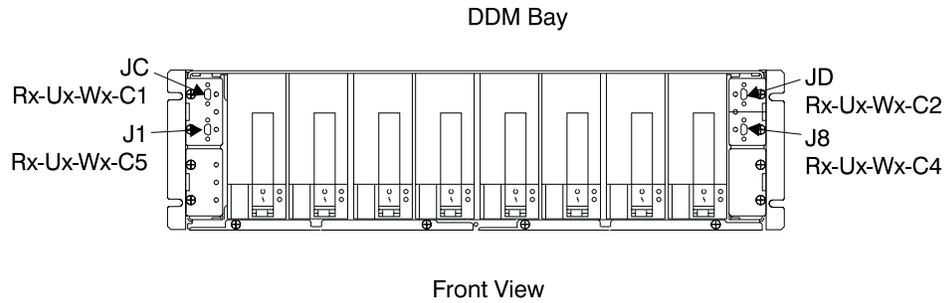

Figure 289. DDM bay SSA Connector Locations (S007703I)
- ___ 7. Route and connect the SSA device cables stored in the 2105 Expansion Enclosure through to the DDM bay they connect to in the 2105 Model E20/F20. Refer to the label on each SSA cable. See Figure 288 on page 293 and Figure 289 on page 294. Connect the SSA device cables to the indicated 2105 Model E20/F20 DDM bays.